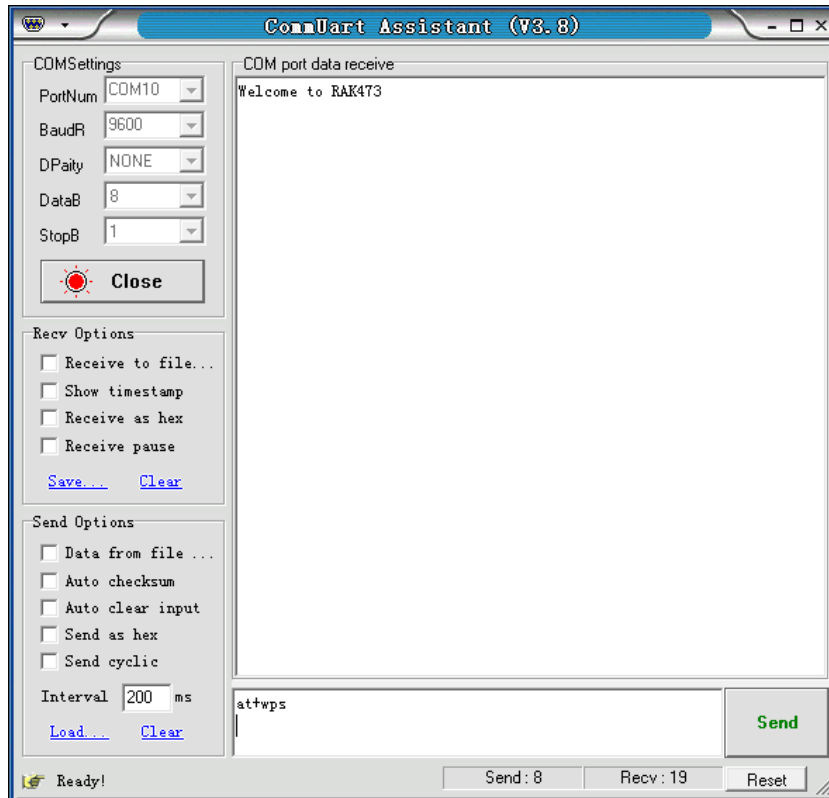

Figure 1-1 Schematic of the serial port to send the command
3. Send the WPS configuration command (Figure 1-1), to make the module enter the state of WPS configuration.